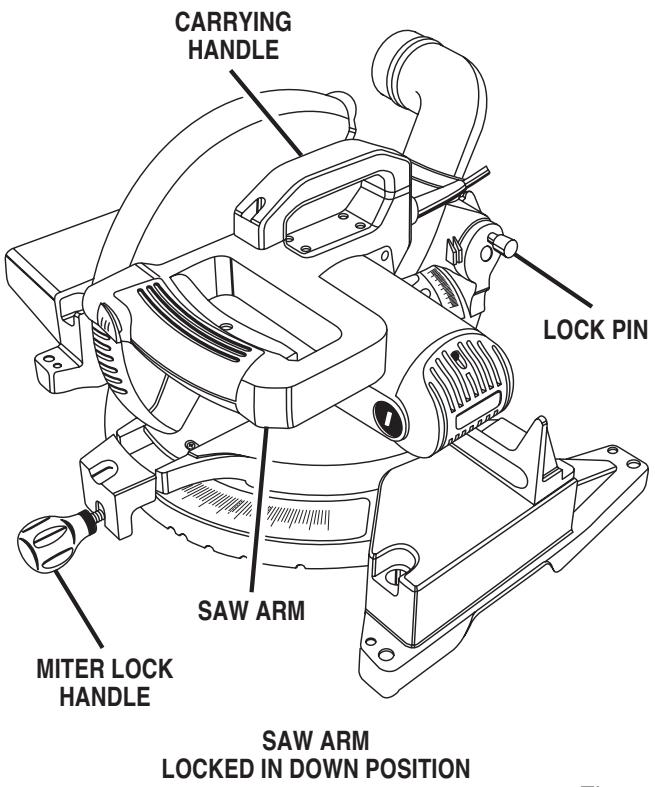

Fig. 3
*See Figure 3.*
For convenience when carrying or transporting your miter saw from one place to another, a carrying handle has been provided on top of the saw arm as shown in figure 3. To transport, turn off and unplug your saw, then lower the saw arm and lock it in the down position. Lock saw arm by depressing the lock pin.